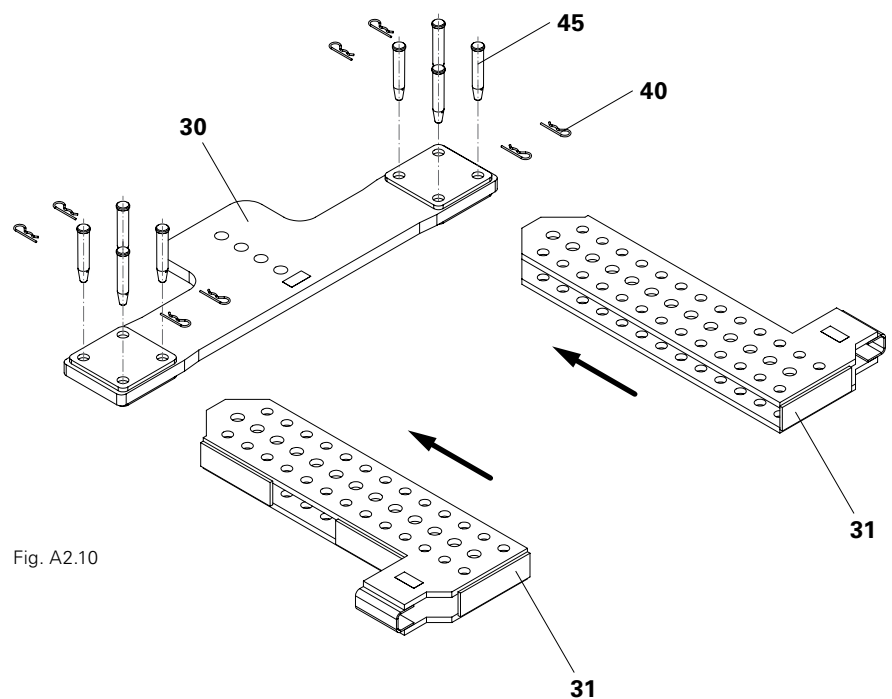

Fig. A2.10
3. Fix two Bracing Traverse Connectors (31) to the Bracing Traverse (30) with the bolts (45) and secure with cotter pins (40). (Fig. A2.10) The exact connection position is specified in the assembly plan.